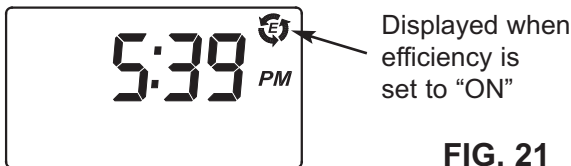

FIG. 21
4. Press the SELECT button twice to return to the normal run display (See Figure 21).